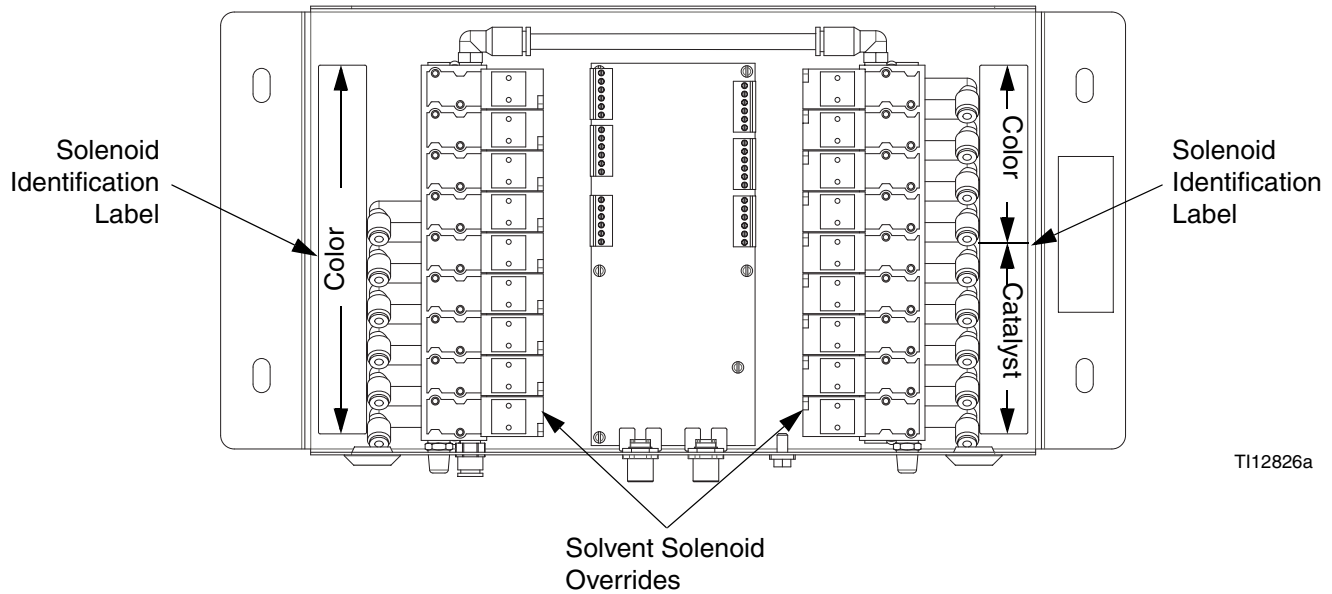

FIG. 66: Color Change Solenoids
4. See FIG. 66. Open the color change module. Using the solenoid identification labels as a guide, press and hold the override button on each color solenoid until flow from the sampling valve stops.
4. See FIG. 66. Open the color change module. Using the solenoid identification labels as a guide, press and hold the override button on each color solenoid until flow from dump valve A stops.
6. See FIG. 66. Using the solenoid identification labels as a guide, press and hold the override button on each catalyst solenoid until flow from dump valve B stops.